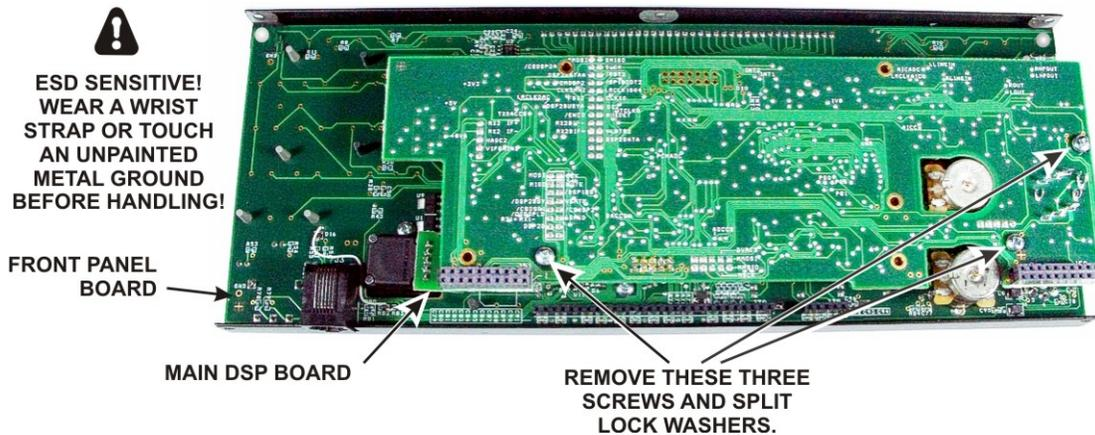

Figure 8. Removing DSP Board Assembly.
Remove the three screws and split lock washers shown in Figure 8.
- Replace the three 4-40 1/4" (6.4 mm) zinc pan head screws you removed earlier with a split lock washer under each screw head (see Figure 8 on page 8).